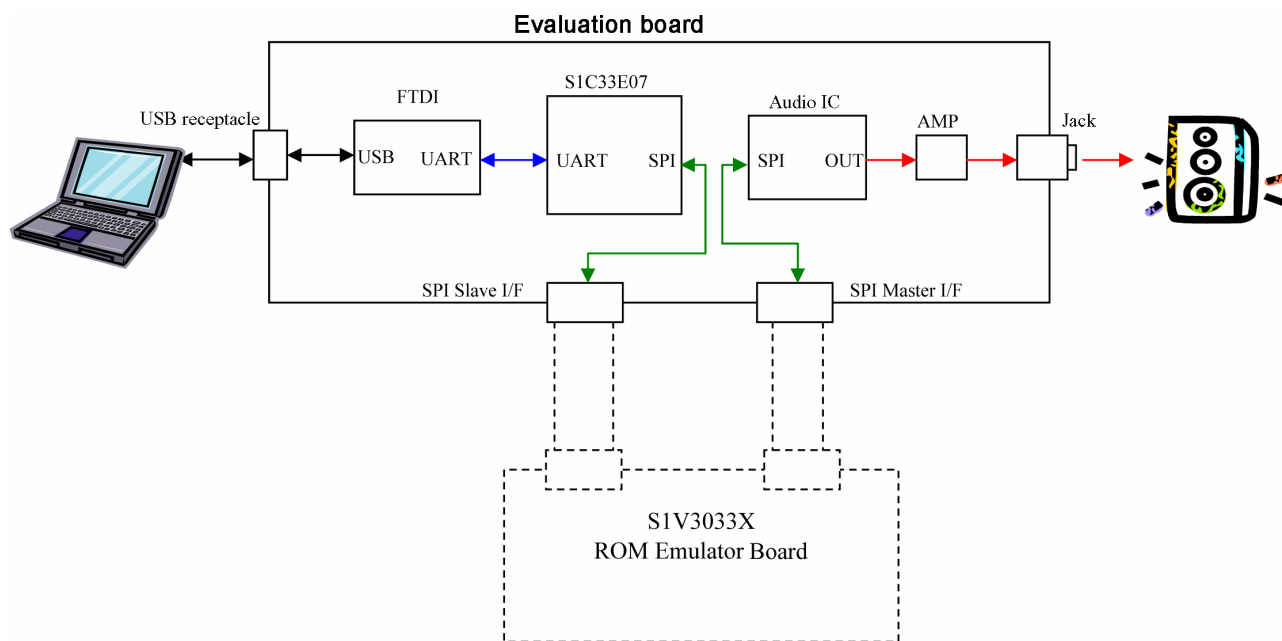

Fig. 2-5 ROM Emulator connection diagram
- (3) Fig. 2-5: ROM with a built-in audio IC can be emulated by connecting the optional ROM emulator.